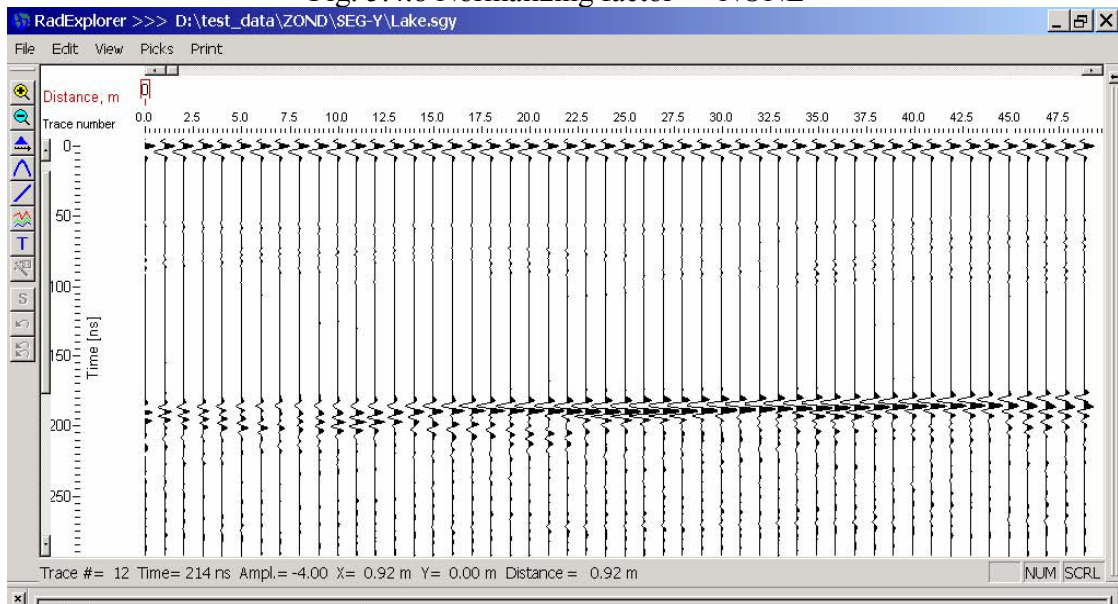

Fig. 5.4.9 Normalizing factor – “Entire screen”
- “Entire screen” – normalizes all the traces in the aggregate by means of trace amplitude division by the average absolute value of the amplitude of all traces (see Fig. 5.4.9);